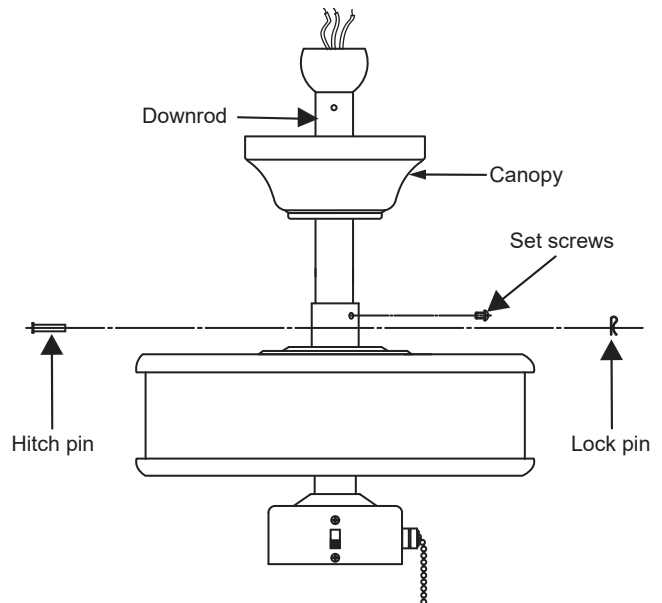

Figure 6
Step 4. Route wires exiting from the top of the fan motor through the canopy and then through the ball/ downrod. (Fig. 6)
Step 5. Align the holes at the bottom of the downrod with the holes in the collar on top of the motor housing (Fig.6). Carefully insert the hitch pin through the holes in the collar and downrod. Be careful not to jam the pin against the wiring inside the downrod. Insert the locking pin through the hole near the end of the hitch pin until it snaps into its locked position, as noted in the circle inset of Fig. 6.
Step 6. Tighten two set screws on top of the fan motor firmly. (Fig. 6)